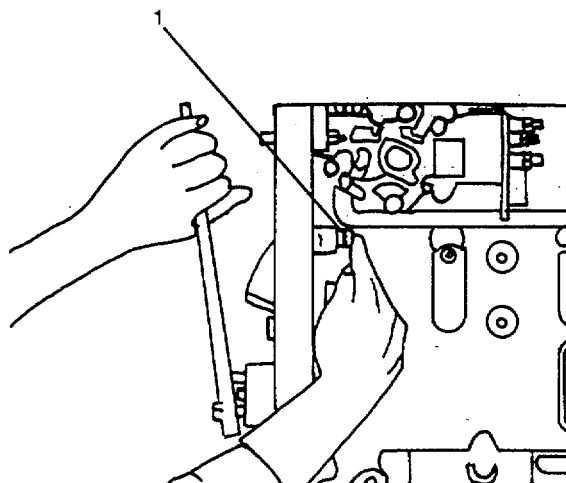

FIGURE 2-28. Cylinder 1, Top Dead Center Pin.
- d. Locate Top Dead Center (TDC) for Cylinder Number 1 by barring engine slowly while pushing in on TDC pin. Disengage the pin after locating TDC. (FIGURE 2-28).